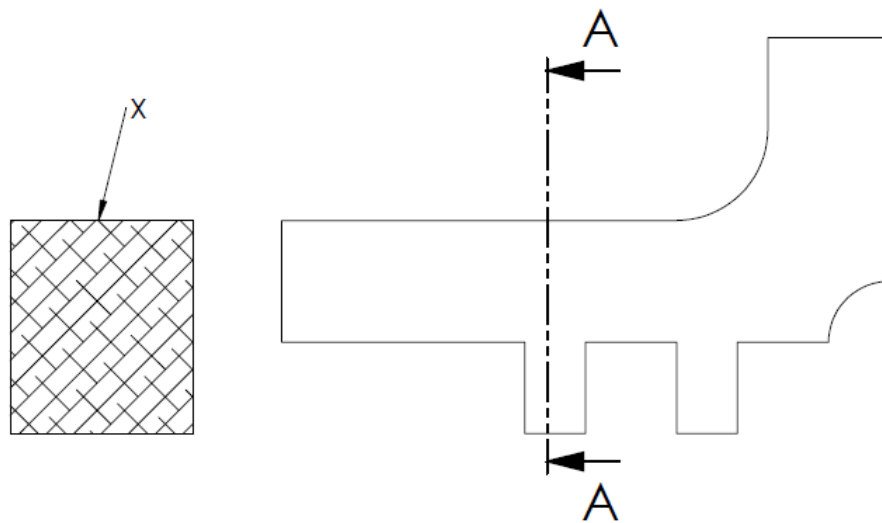

Figure 3.2
- c) What is the name of the view indicated by X in the above Figure 3.2?